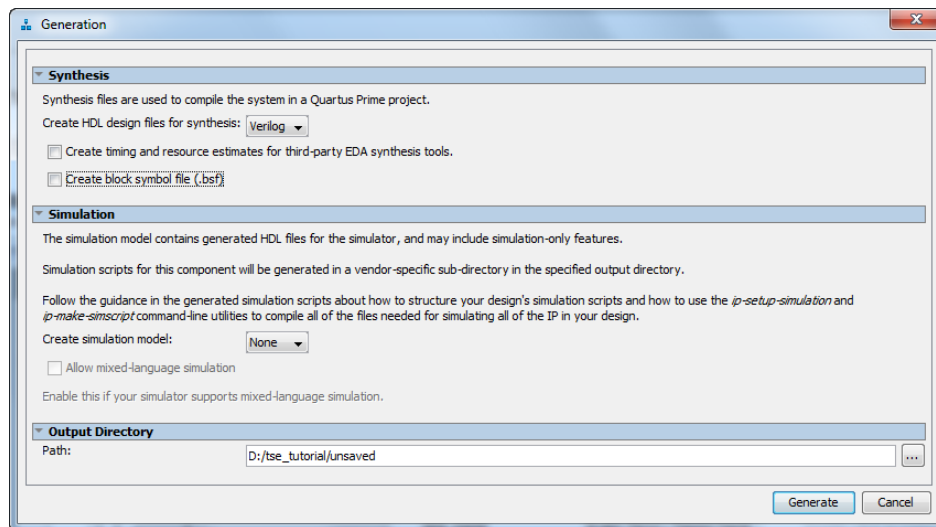

Figure 11. Settings for Generating Qsys.
- Uncheck the **Create block symbol file (.bsf)** in the **Synthesis** section as shown in Figure 11.